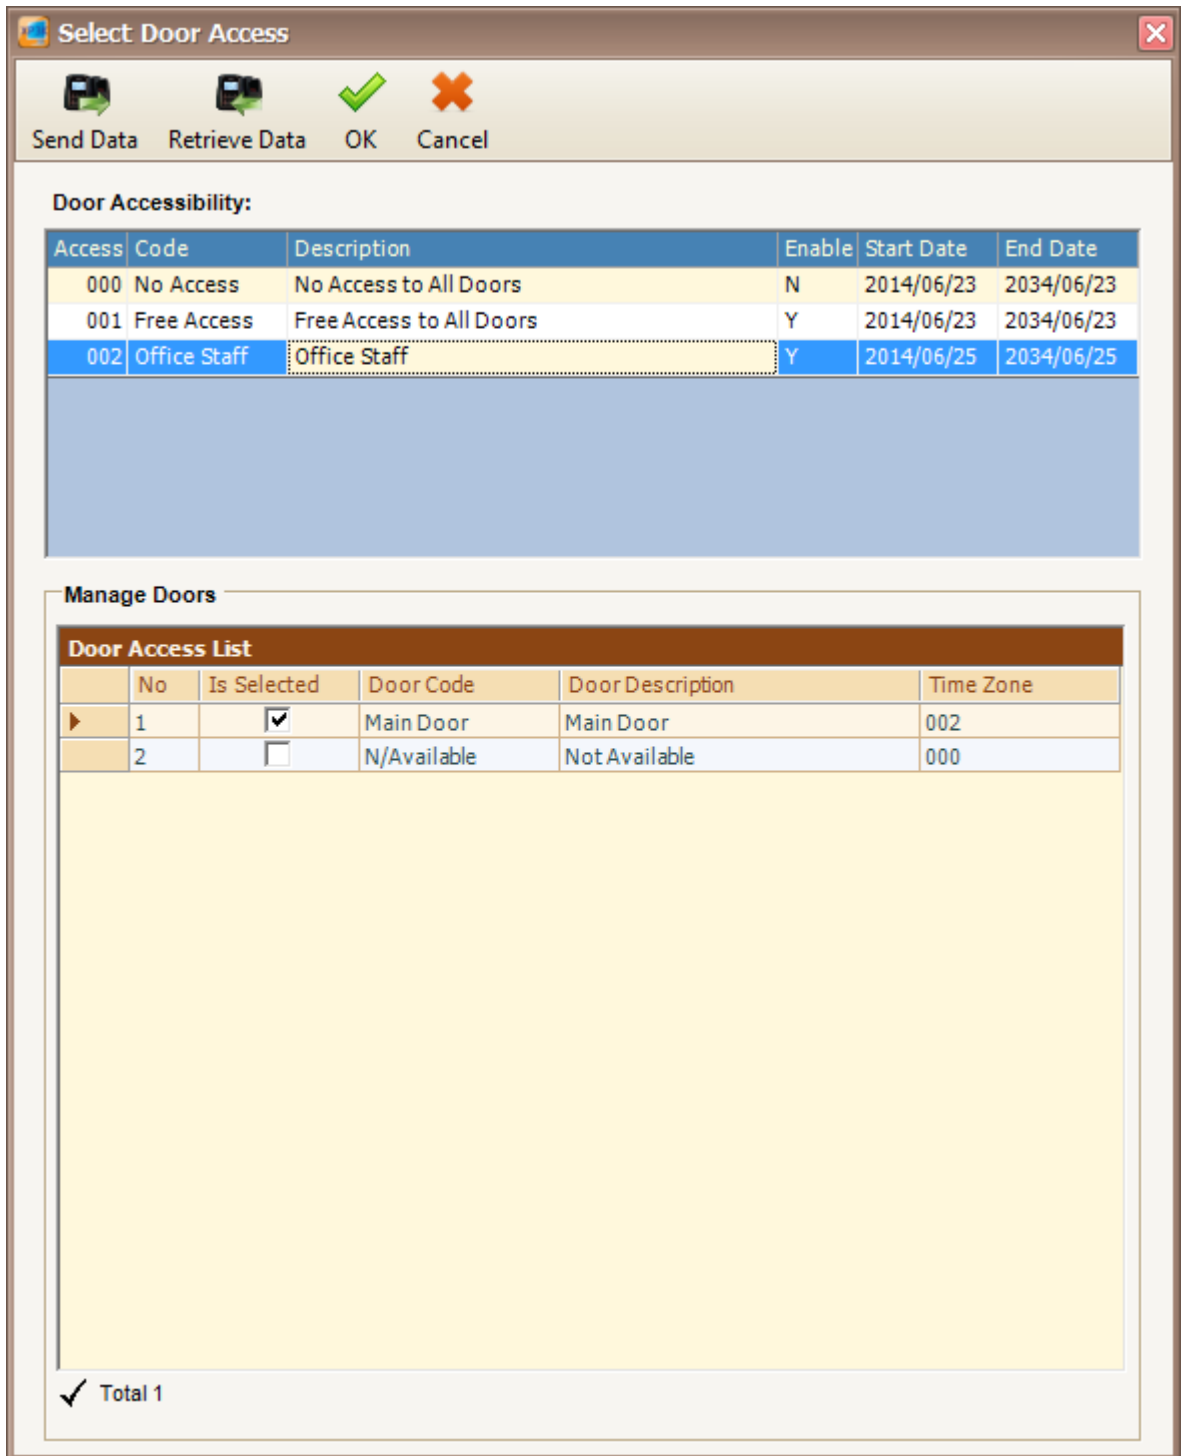

Figure 210 - Select Door Access
8. The following screen will be shown (Refer **Figure 210**).